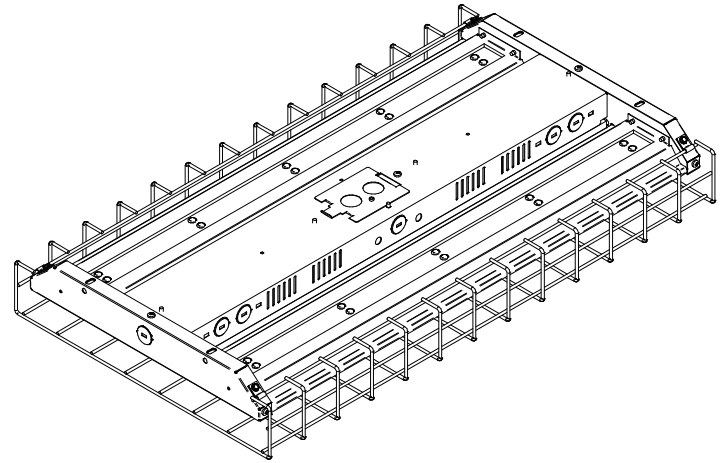

Figure 7
- Align the clips with holes located on the top side of the led channel. Install and torque screws until flushed to clips. (Figure 7)